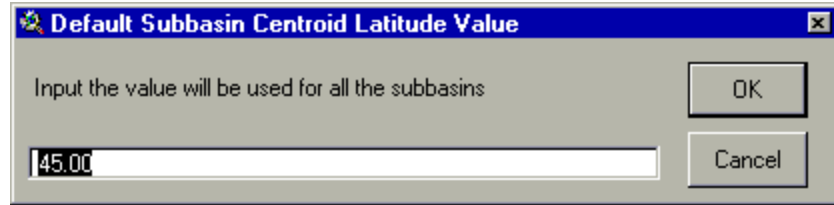

Figure 5.53
- b. A prompt box is displayed (Figure 5.53).